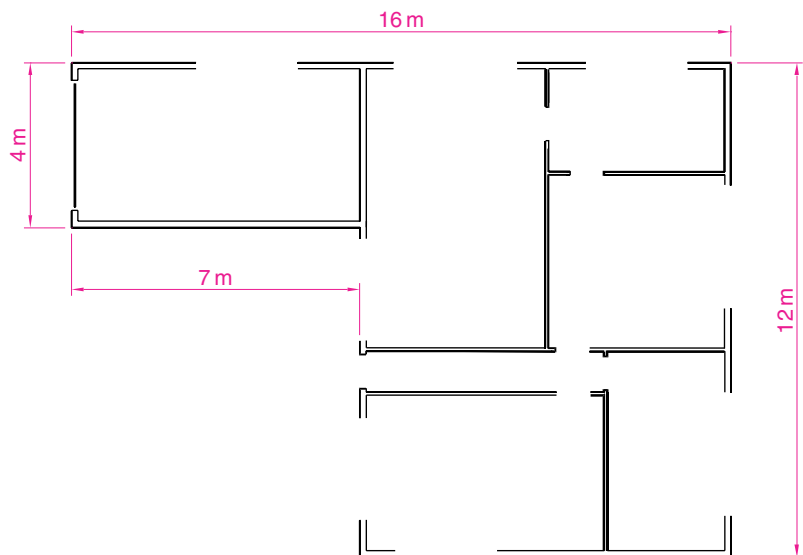

Fig. 9.5 First example – inserting blocks. Outline plan
Ensuring that all the symbols saved as blocks using the **Make Block** tool are saved in the data of the drawing in which the symbols were constructed, erase the drawings of the symbols and in their place construct the outline of the plan of a bungalow to a scale of 1:50 (Fig. 9.5). Then:
3. With the outline plan (Fig. 9.5) on screen the symbols can all be dragged into position from the **DesignCenter**.